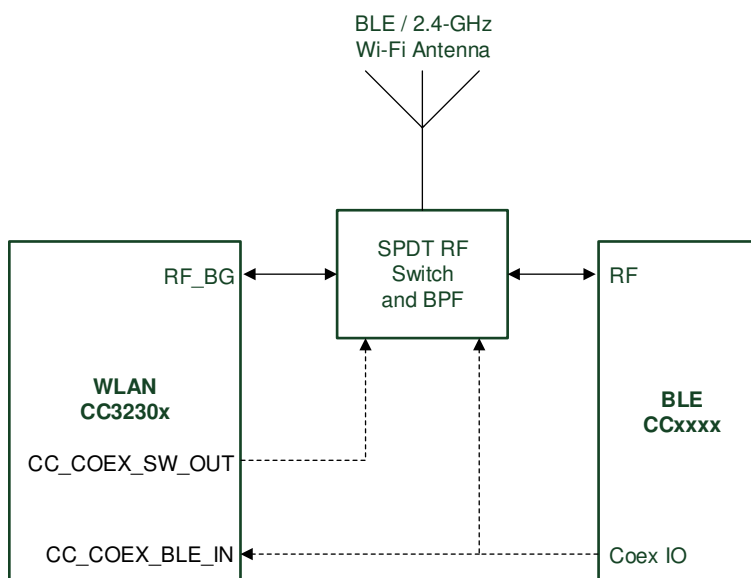

Figure 10-1. Single-Antenna Coexistence Mode Block Diagram
- In this mode, (see Figure 10-1) the two entities share the antenna through an RF switch using two GPIOs (one input and one output from the WLAN perspective).
Figure 10-1 shows the single antenna implementation of a complete Bluetooth® low energy and WLAN coexistence network. The Coex switch is controlled by a GPIO signal from the BLE device and a GPIO signal from the CC3230x device.